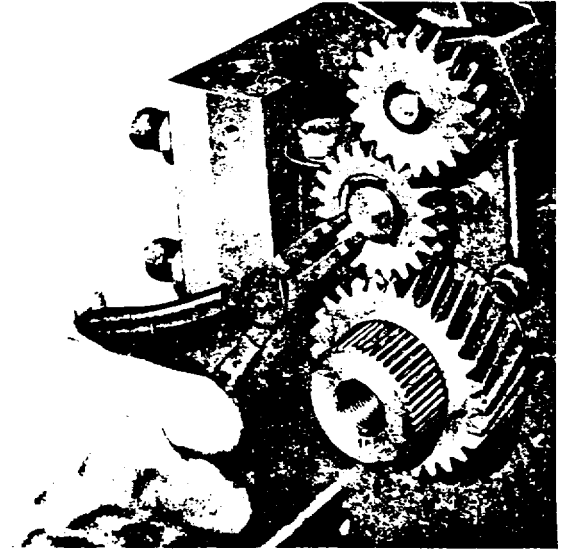

Fig. L.3.
5. Remove the idler gear circlip and idler gear (see Figs. L.3 and L.4).